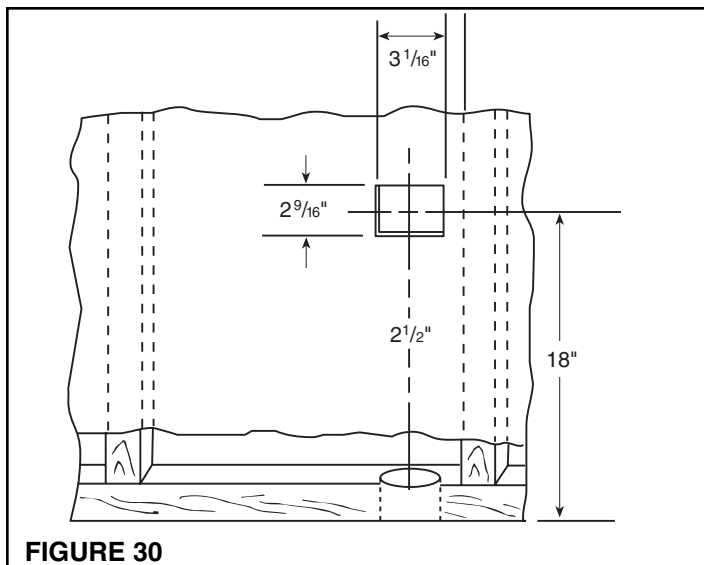

FIGURE 30
5. If area is clear, cut an inlet opening in the wall approximately 18" above the floor. Make sure wall opening and 2½" tube hole line up (Figure 30).